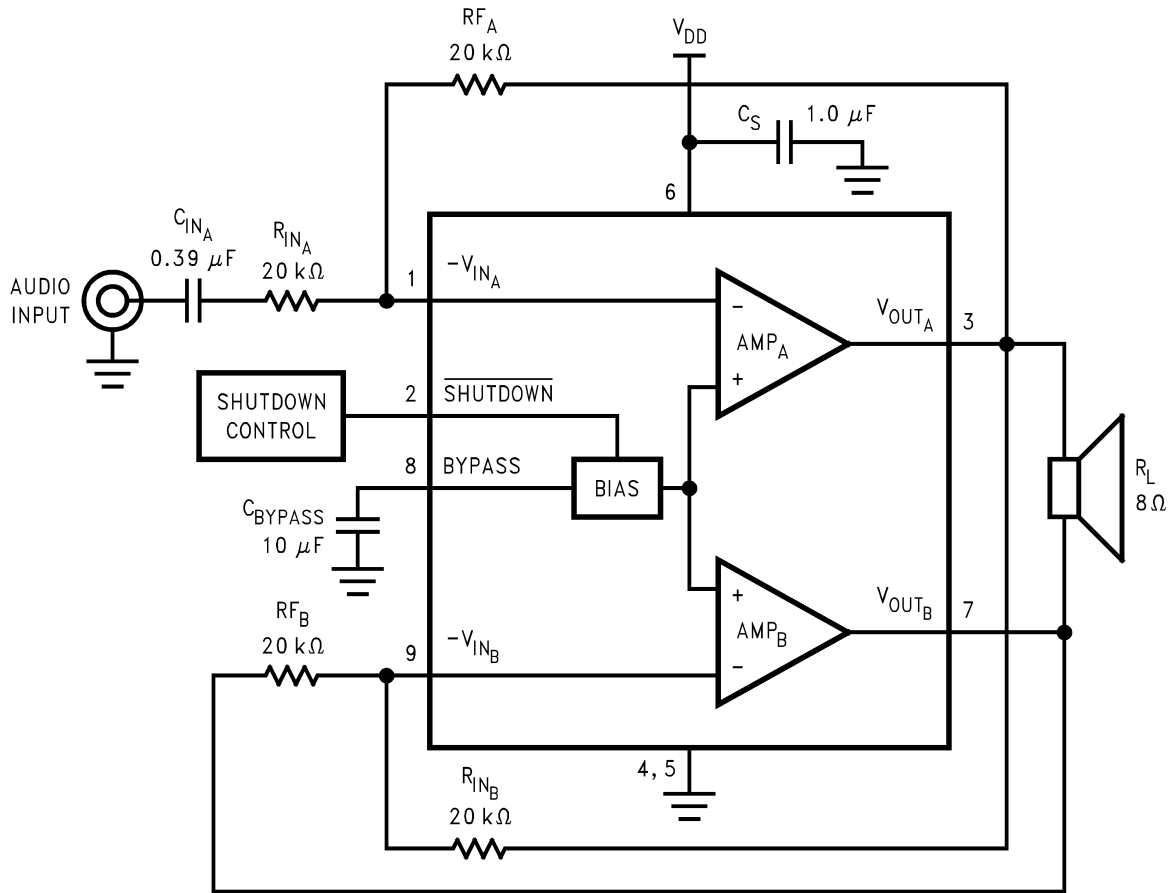

Figure 1. Typical Bridge-Tied-Load (BTL) Audio Amplifier Application Circuit
- (1) All voltages are measured with respect to the GND pin, unless otherwise specified.
- (2) **Absolute Maximum Ratings** indicate limits beyond which damage to the device may occur. **Operating Ratings** indicate conditions for which the device is functional, but do not ensure specific performance limits. **Electrical Characteristics VDD = 12V** state DC and AC electrical specifications under particular test conditions which ensure specific performance limits. This assumes that the device is within the Operating Ratings. Specifications are not specified for parameters where no limit is given, however, the typical value is a good indication of device performance.
- (3) If Military/Aerospace specified devices are required, please contact the Texas Instruments Sales Office/Distributors for availability and specifications.
- (4) The maximum power dissipation must be derated at elevated temperatures and is dictated by TJMAX, θJA, and the ambient temperature, TA. The maximum allowable power dissipation is PDMAX = (TJMAX - TA) / θJA or the given in **Absolute Maximum Ratings**, whichever is lower. For the LM4950 typical application (shown in **Figure 1**) with VDD = 12V, RL = 4Ω stereo operation the total power dissipation is 3.65W. θJA = 20°C/W for both DDPAK and TO220 packages mounted to 16in2 heatsink surface area.
- (5) Human body model, 100pF discharged through a 1.5 kΩ resistor.
- (6) Machine Model, 220pF–240pF discharged through all pins.
See Figure 1.